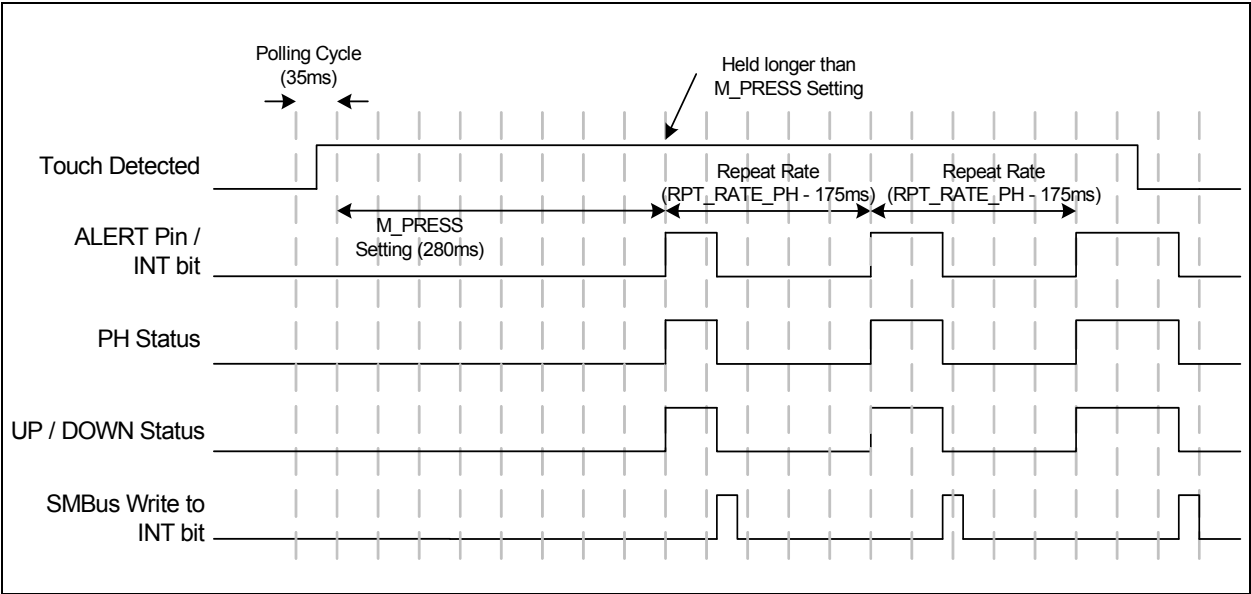

Figure 5.5 Press and Hold Interrupt Behavior
3. For a press and hold event, interrupts are generated based on the programmed repeat rate. If the repeat rate is disabled, no further interrupts are generated. See Figure 5.5.